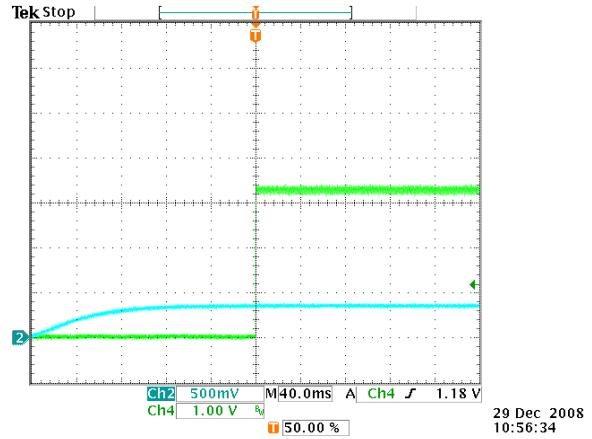

Figure 8 Turn On Time Vin=36V (Ch2 = Vin 50V/div Ch4 = Vout 1V/div)
- 5.2. Turn the output enable switch off on the input supply. Set the output voltage to 36V and then turn on the enable switch. The input voltage should rise at some controlled rate determined by the current limit setting and the inrush current. The scope should capture the turn on waveform like that shown in Figure 8.